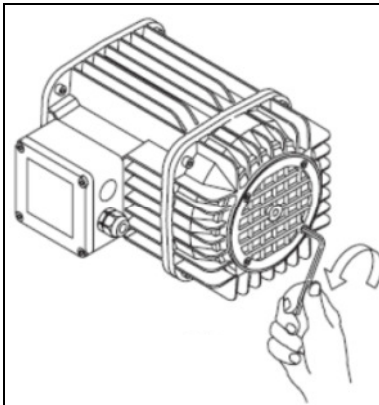

fig.46
3. Working overhead, remove the plastic grill (ventilation) by completely unscrewing the four screws (fig. 46).